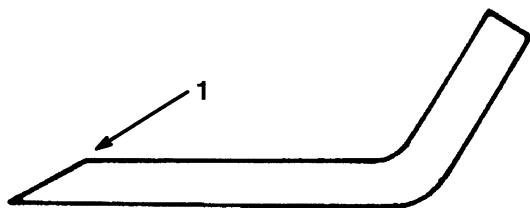

Figure 24
1. Use a file to sharpen the cutting edge at both ends of the blade (Fig. 24). Maintain the original angle. The blade retains its balance if the same amount of material is removed from both cutting edges.